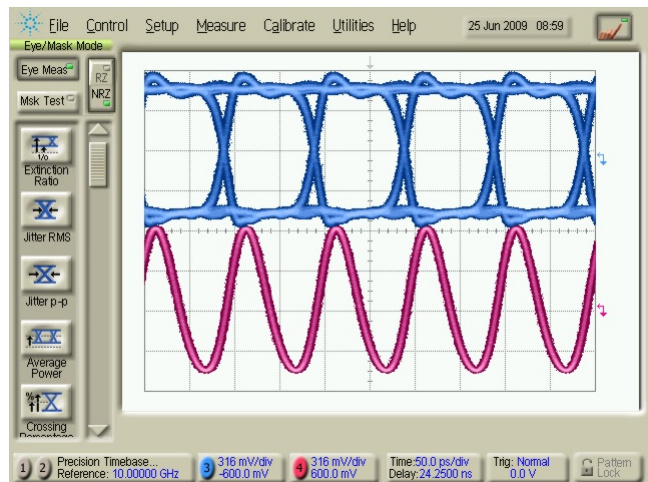

Figure 2. Installation setup waveform
- 7 Verify that the waveform is similar to the one shown in Figure 2.